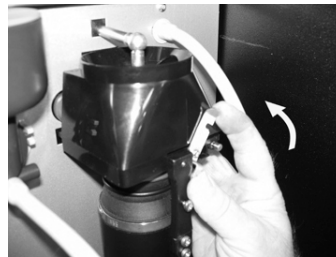
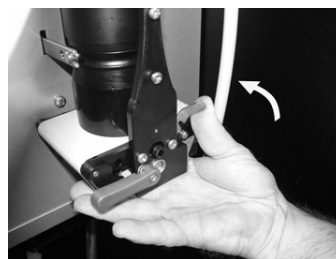

Figure 13c
Figure 13d
- **Figure 13c & Figure 13d** - Lift and release both the carriage upper & lower locking catches.